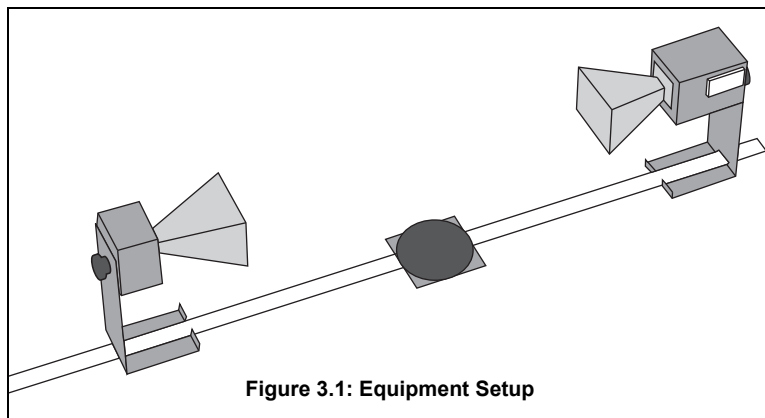

Figure 3.1: Equipment Setup
- Set up the equipment as shown in Figure 3.1. Adjust the Receiver controls to get a full-scale meter reading with the Transmitter and Receiver as close together as possible. Slowly move the Receiver along the Goniometer arm away from the Transmitter. How does this motion effect the meter reading?
1. Arrange the equipment as shown in Figure 3.1.